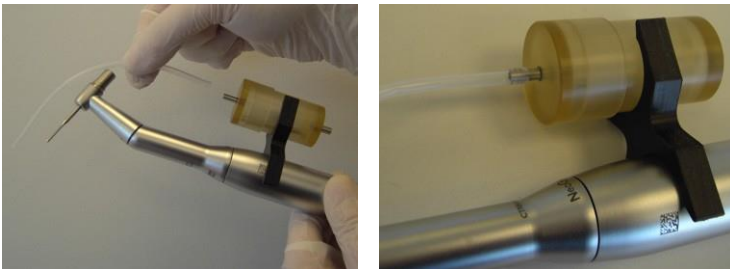

Figure 3-57. Connecting the Graft Tube to the Graft Collector's Graft Side
13. Connect the Sterile graft tube to the graft collector's Graft side, as shown in Figure 3-57.